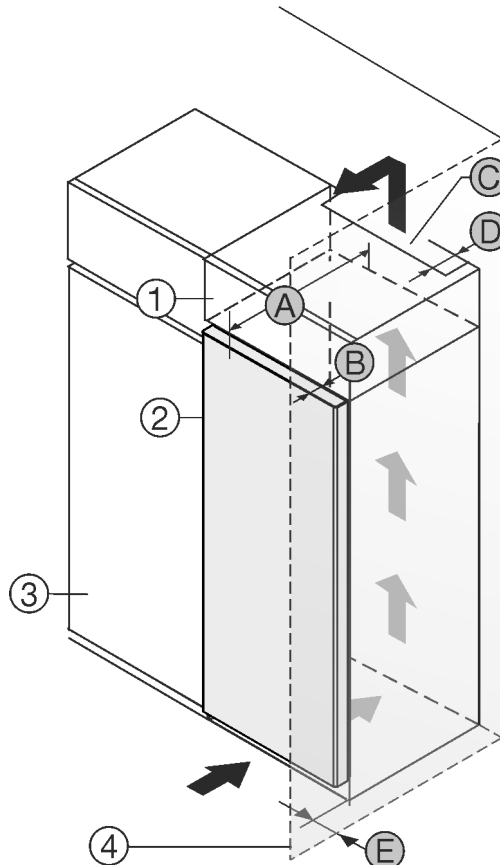

Fig. 1
You can place the appliance directly beside the kitchen cabinet Fig. 1 (3).*
There must be a ventilation shaft at the depth Fig. 1 (D) of the back of the top cupboard over the entire width of the top cupboard.*
The ventilation cross-section Fig. 1 (C) must be maintained under the ceiling.*
If the appliance is set up with the hinges next to a wall Fig. 1 (4), the distance between the appliance and the wall must be at least 13 mm.*
If the appliance is set up with the hinges next to a wall Fig. 1 (4), the distance between the appliance and the wall must be at least 20 mm.*
In order to be able to fully open the door, the appliance must protrude by the depth of the door *Fig. 1 (B)* from the front of the kitchen cabinet. The appliance may protrude further depending on the depth of the kitchen cabinets *Fig. 1 (3)* and whether wall spacers are used.*